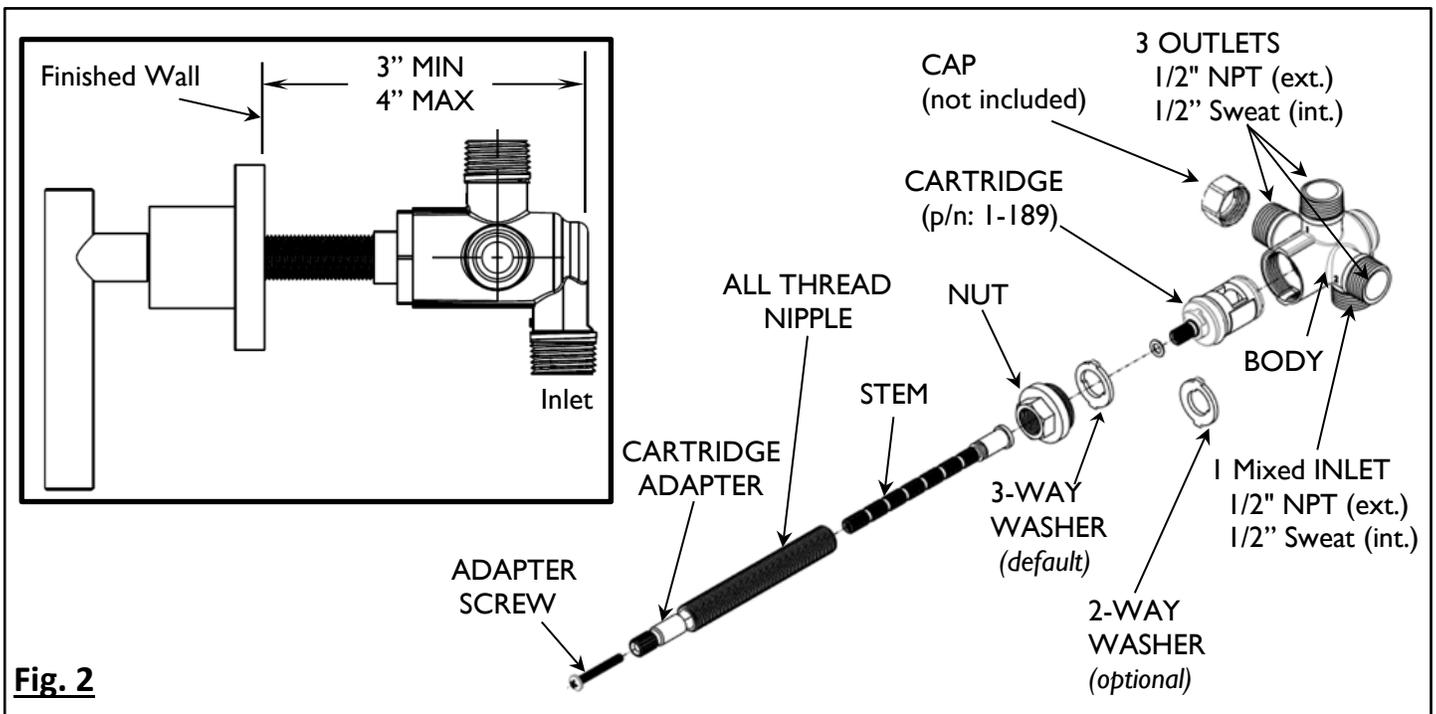

Fig. 2
- Optional 2-way WASHER* is supplied separately. 2-way mode is used for 2 end devices. To change to 2-way mode, remove ALL THREAD NIPPLE, STEM, and NUT as shown in **Fig. 2**. Swap out the *default 3-WAY WASHER* with the 2-WAY WASHER and place onto cartridge. 2-WAY WASHER and orientation are shown in **Fig. 1B** and **Fig. 1C**. A 1/2" NPT CAP (not included) is required on the unused "OUTLET" port.
- b. Notice the "IN" port of the diverter body for water supply and position diverter BODY 3" – 4" from back side of diverter BODY to Finished Wall surface as shown in **Fig. 2** below.